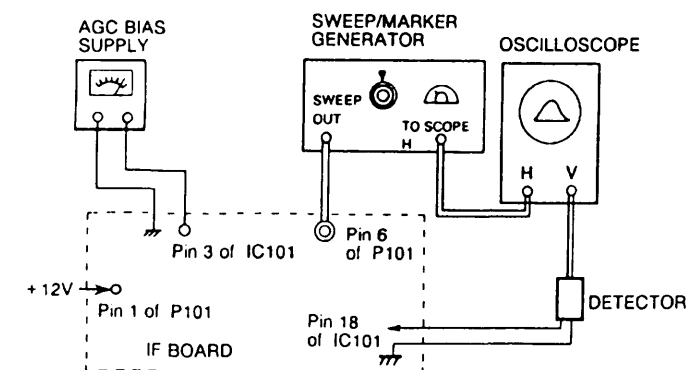

Fig. 1
**General:** Refer to fig. 1 for test equipment connection.
Connect to pin 6 of P101 as shown in fig. 1 on the IF Board.